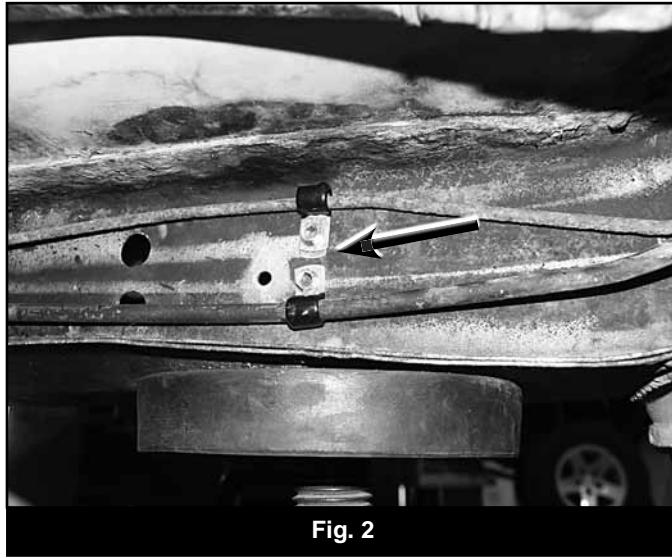

Fig. 2
7. Locate the hole in the frame where the original plastic retaining clip was installed. Install the brake hard line to the frame with the provided clip and self-drilling screw just ahead (1/2" max) of the existing hole in the frame (Fig 2). Position the line up against the floor with the clip mounting tab pointing down. Carefully reform the brake line as needed. Tighten screw securely.
8. Attach the fuel line in the same manner as the brake line. Position the clip directly below the brake line clip with the mounting tab pointing up (Fig 2). This will make the fuel line run low, close to the uni-body pinch weld.